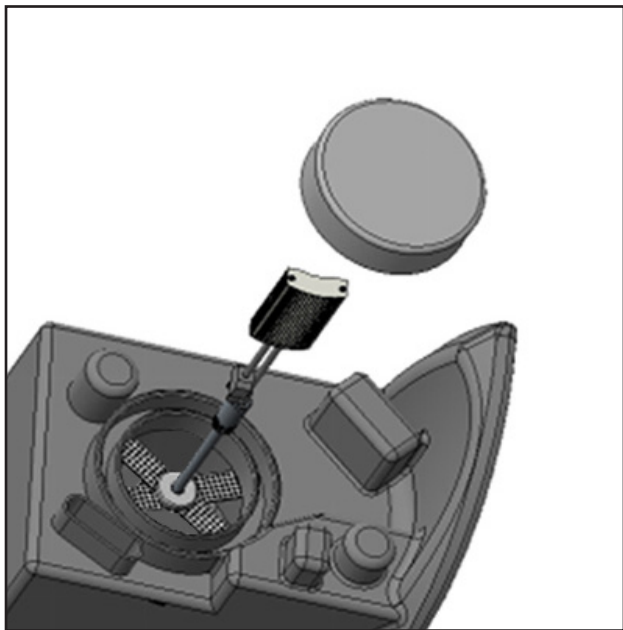

Figure 3
STEP 5. Carefully insert the heat sinks into the headlamp assembly, and check heat sinks are not folded to ensure maximum heat dissipation (refer figure 3).